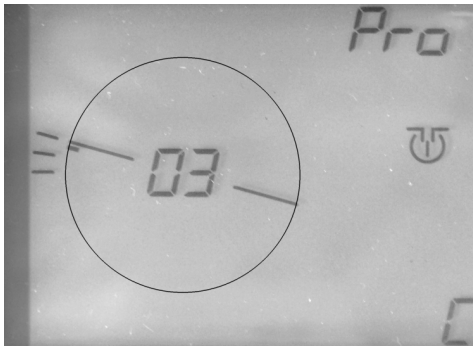

Fig. 13 Put in 3rd exit
- Your display should now look like this (see Fig. 13):